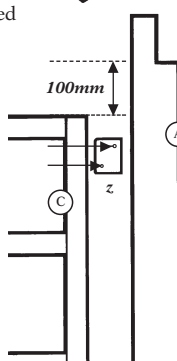

Fig 2.
4. Use the Trellis Sections (C) to mark where the 'L Clips (z) need to be fitted to the posts. The 'L Clips should be positioned so that they fit into the corners of the trellis. The top clips should be 100mm below the shoulder at the top of the post (see Fig.2).